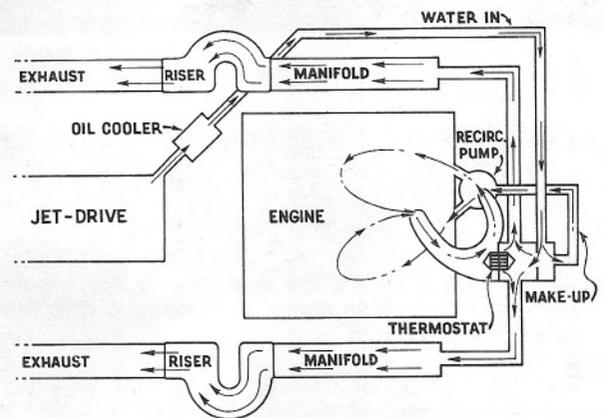

Figure 3
**A. COOLING SYSTEM** This system is a thermostatically controlled make-up type circulating system (Figure 3). Water is continuously circulated throughout the engine by a low pressure, high capacity automotive pump. An excess flow of cool water under minimal pressure is always available to the system from the Jet-Drive. The pressure-balanced thermostat opens as the engine reaches operating temperature and hot water leaves the system, allowing cool water to replace it. The volume of hot water which is replaced by cool water is controlled by the amount of thermostat opening. Thus a constant operating temperature is maintained under any condition, whether idling for long periods of time or running wide open.